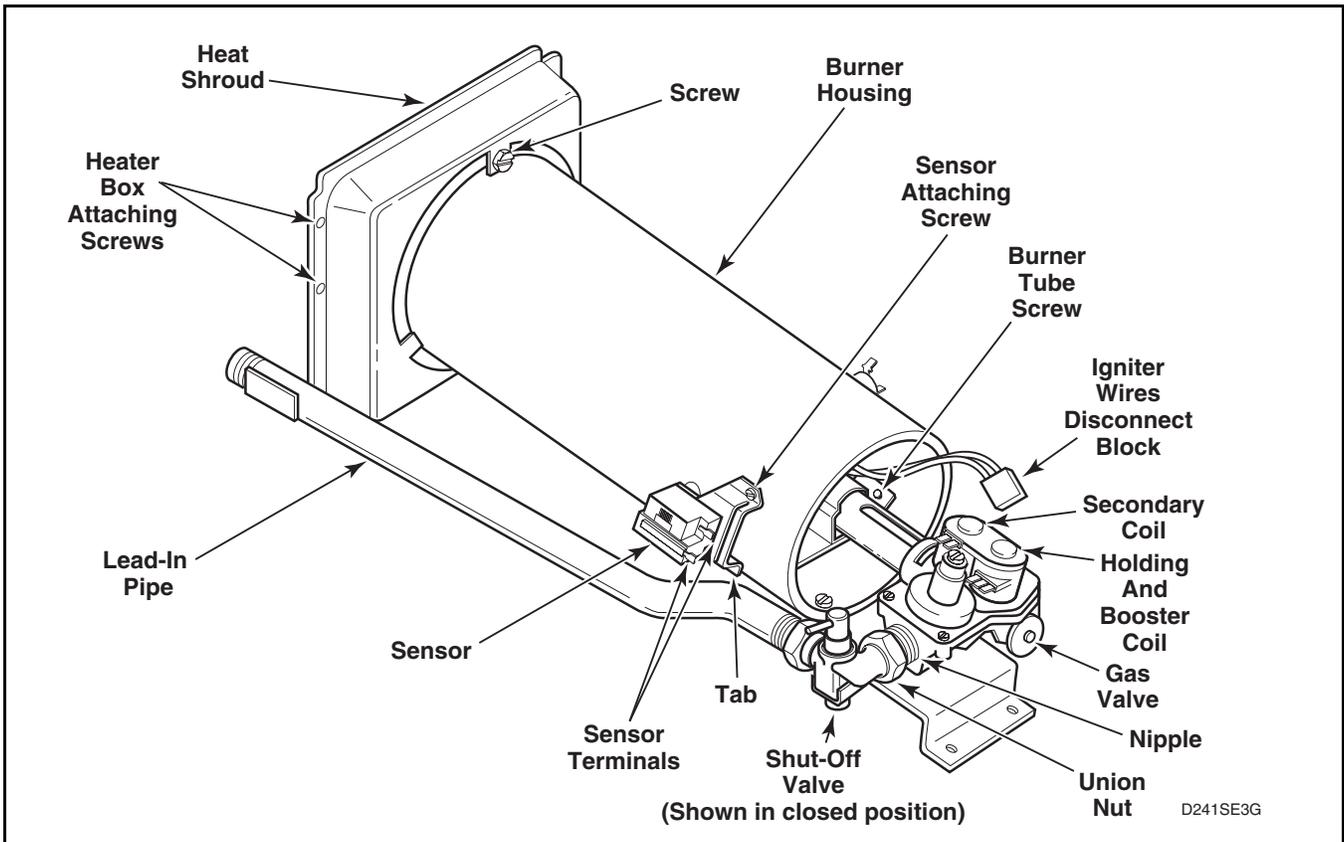
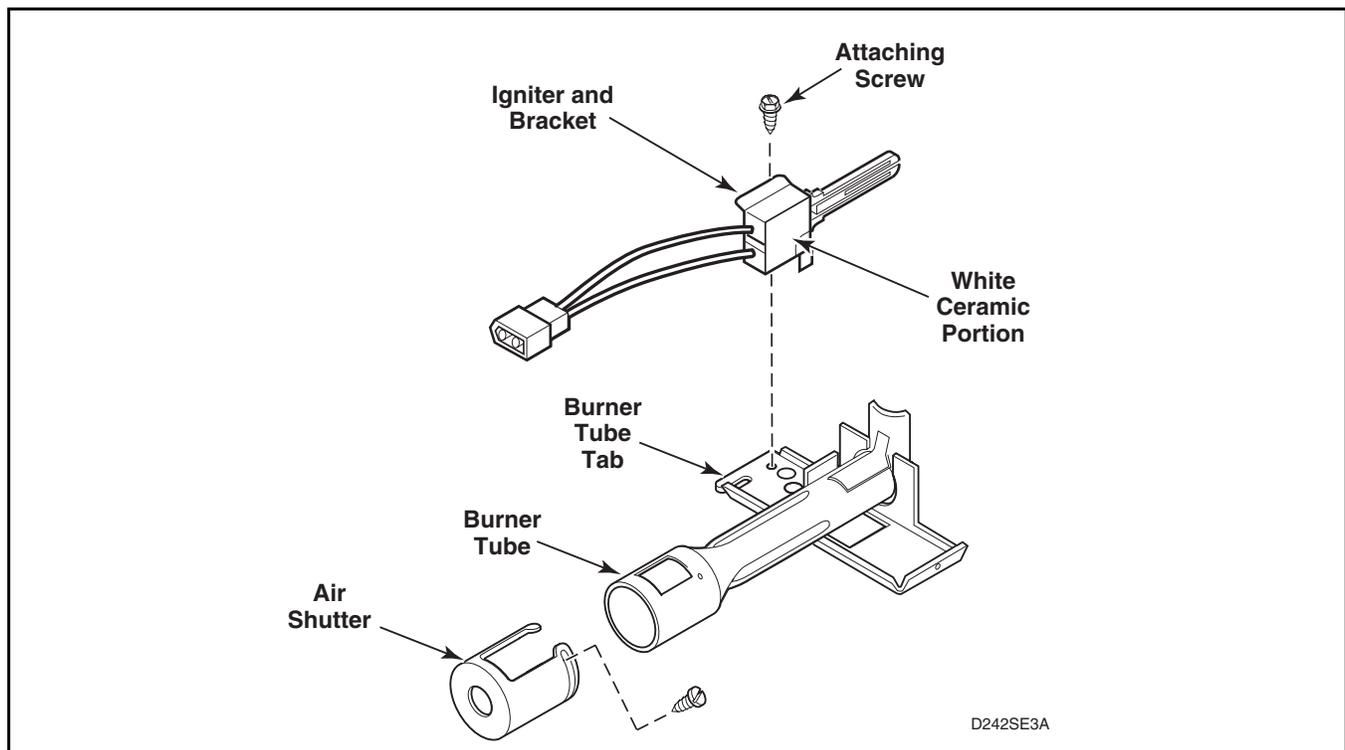

Figure 20
Figure 21
- (1) Close main gas shut-off valve, disconnect igniter wires at disconnect blocks, sensor wires from sensor terminals, and wires
- (2) Disconnect gas shut-off valve from gas valve at the union nut. Refer to *Figure 20*.
- (3) Remove three screws holding valve and mounting bracket to base. Refer to *Figure 20*.
- (4) Lift gas valve and mounting bracket from base. Refer to *Figure 20*.
- (2) Gently move burner tube toward rear of dryer to disengage tab from slot on left side of burner housing. Refer to *Figure 20*.
- (3) Carefully rotate burner tube and igniter **counterclockwise** so tab is at 8 o'clock position.
- (4) Move air shutter end of burner tube slightly to right and **CAREFULLY** remove burner tube and igniter assembly out through front of dryer.
- (5) Remove screw holding igniter and bracket to burner tube and remove igniter and bracket. Refer to *Figure 21*.
- (1) Remove wires from sensor terminals. Refer to *Figure 20*.
- (2) Remove screw holding sensor to burner housing. Refer to *Figure 20*.
- c. Disconnect igniter wires at disconnect blocks, sensor wires from sensor terminals, and wires from gas valve coils at the quick disconnect blocks. Refer to *Figure 20*.
- e. Gently move burner tube toward rear of dryer to disengage tab from slot on left side of burner housing. Refer to *Figure 20*.
- h. Remove screw holding burner housing to heat shroud. Refer to *Figure 20*.